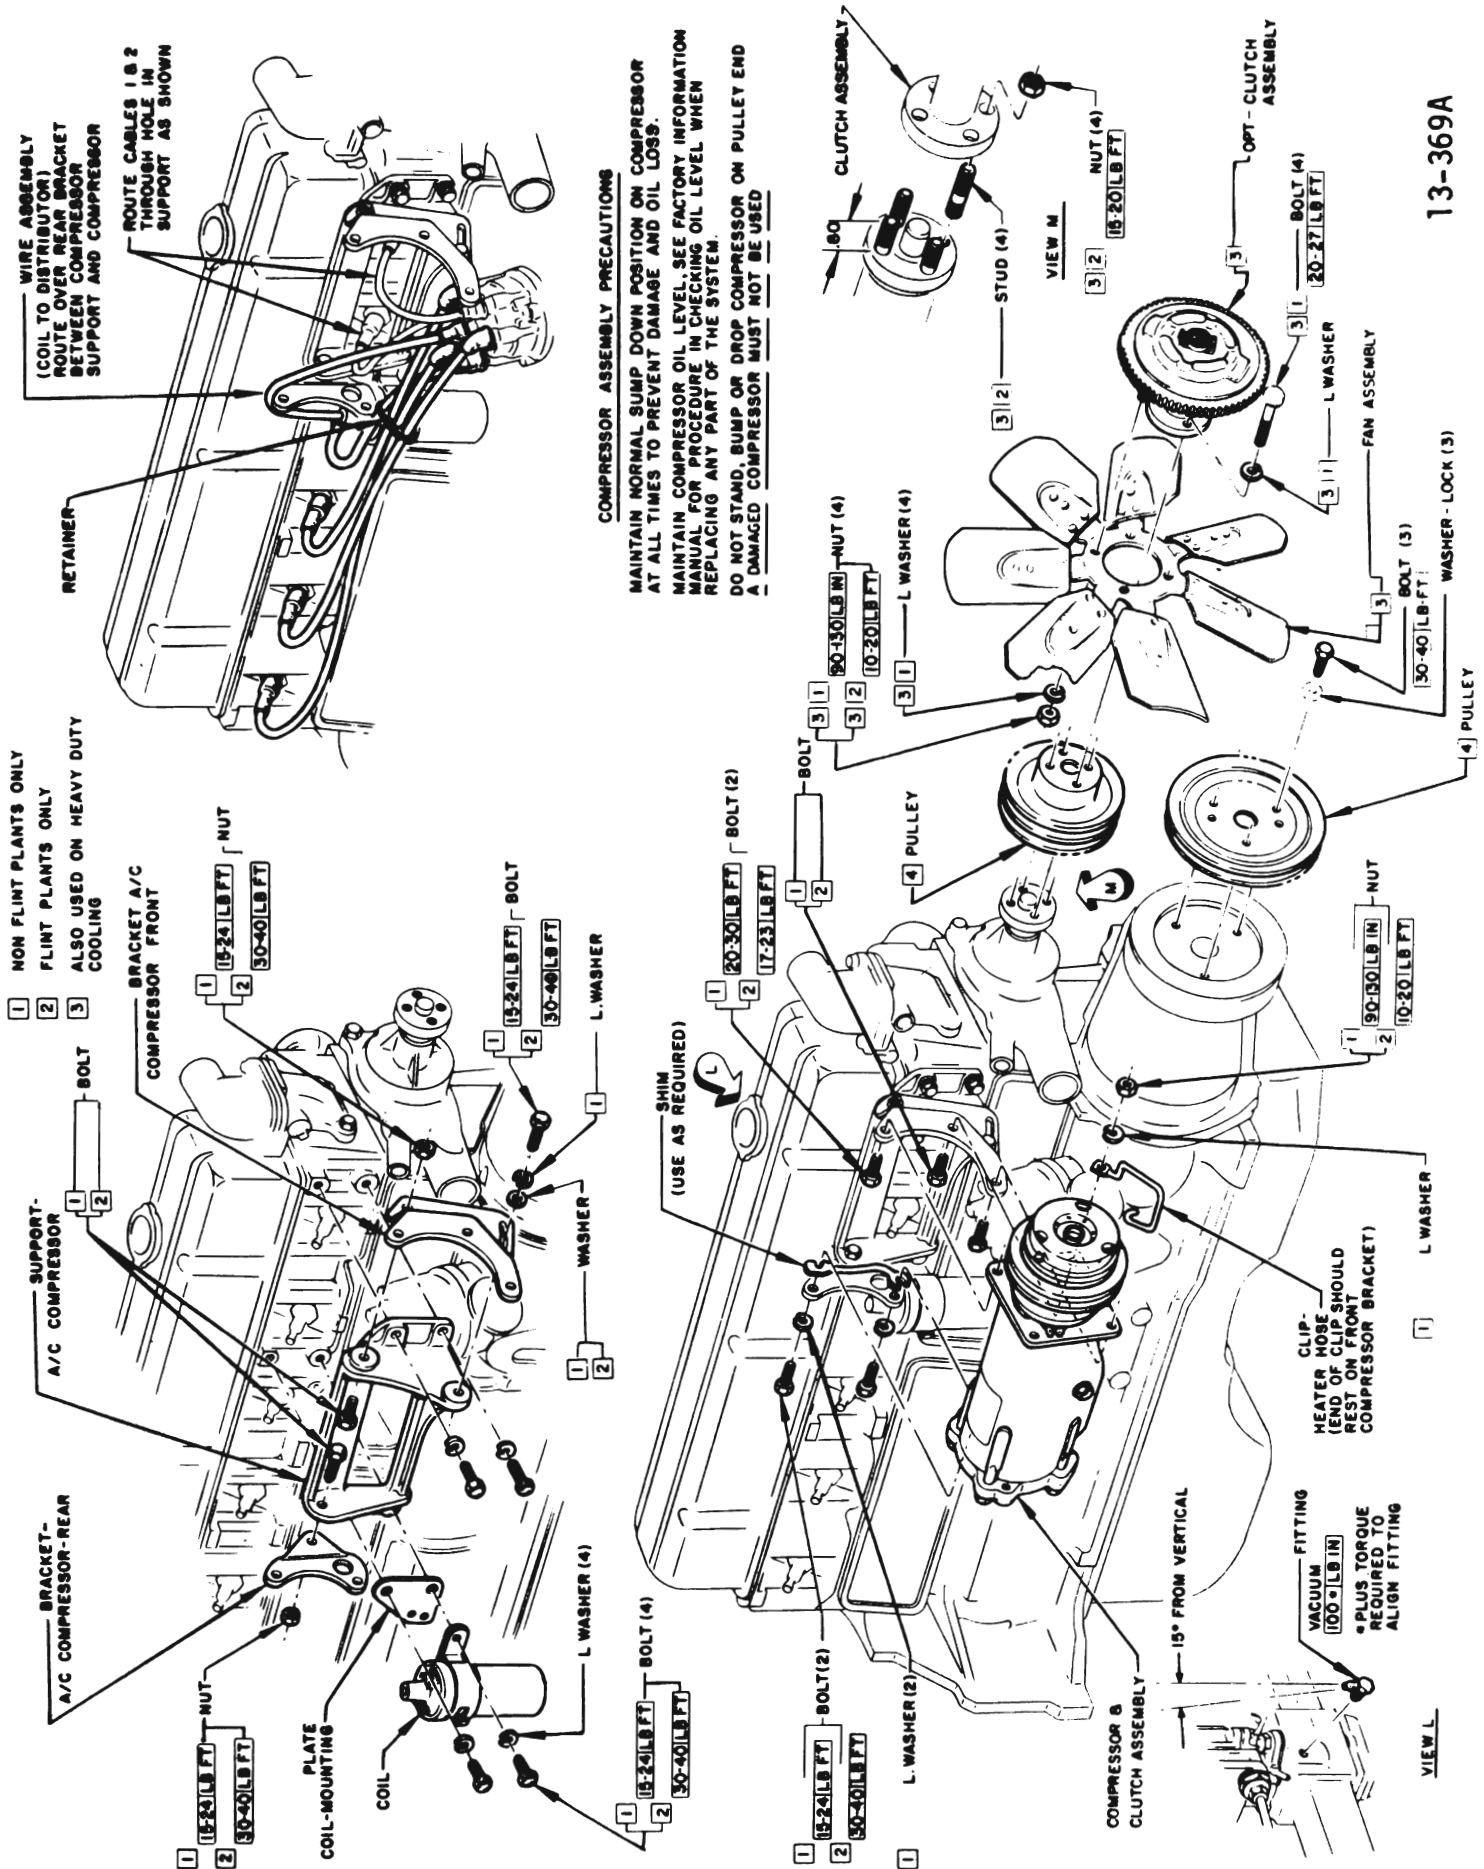

Figure 13-51 Compressor Installation, L-6 Engine
4. Remove bolts in slots of compressor mounting brace (see Figure 13-51, 13-52, or 13-53) and tilt compressor inward.
1. Installation is reverse of removal. Torque bolts as specified in Figure 13-51, 13-52, or 13-53.